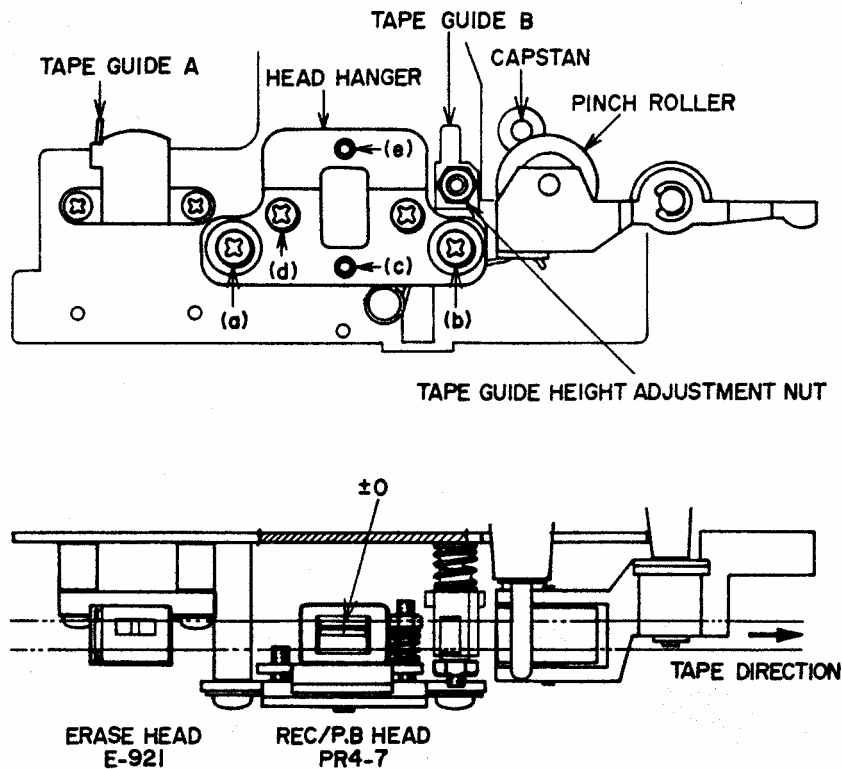
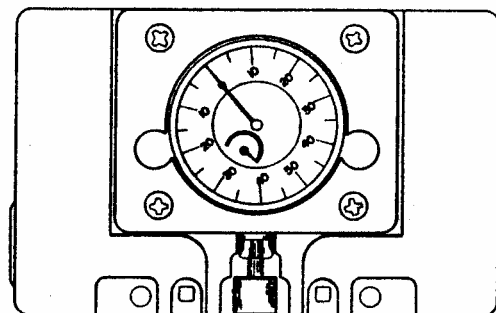

Fig. 22 Head Adjustment
Fig. 24 AKAI Head Projection Gauge
(Refer to Figs. 22, 23)
- 2) At playback mode, using the tape guide (A) shown in Fig. 22 as standard for height, adjust tape guide (B) height with tape guide height adjustment nut so that the tape runs smoothly and does not catch on the tape guides.
Set the AKAI Head Projection Gauge (Fig. 24) and adjust (a) and (b) screws (Fig. 22) so that it reads: 1.9 to 2.2 mm in the WLS Mode, 3.55 ± 0.1 mm in the Play Mode.
3. RECORDING/PLAYBACK HEAD HEIGHT ADJUSTMENT (Refer to Figs. 22, 23)
- 2) As shown in Fig. 22, adjust head height with screws (c), (d) and (c) until the upper edge of the tape is the same height as the upper edge of the left channel REC/PB head core.
4. RECORDING/PLAYBACK HEAD AZIMUTH ALIGNMENT ADJUSTMENT (Refer to Fig. 22)
- 1) Playback a 10 kHz pre-recorded cassette azimuth alignment test tape and adjust screw (d) shown in Fig. 22 to obtain maximum output on both channels.
4. When a mirror installed cassette test tape as shown in Fig. 24 is required, it can be ordered from AKAI Electric Co.